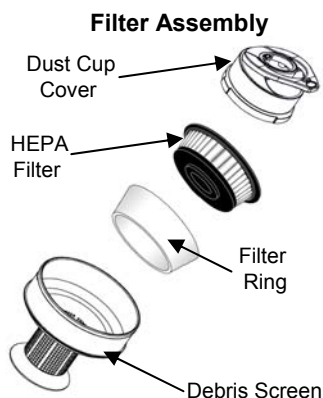

Fig. 13
- To separate the filter assembly, hold the bottom of the debris screen and pull the dust cup cover out. Then remove the HEPA filter with the filter ring from the debris screen (Fig. 13)